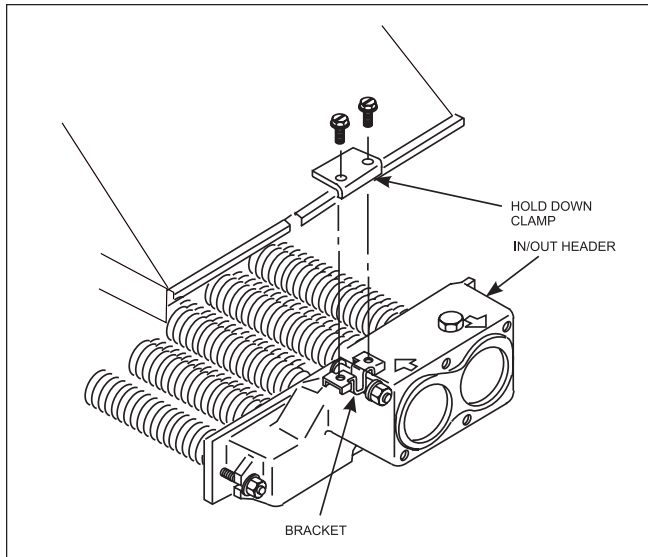

Figure 9. Flue collector hold-down brackets
5. Remove the screws securing the two flue collector hold down clamps and remove the clamps (see Figure 9). Remove flue collector.